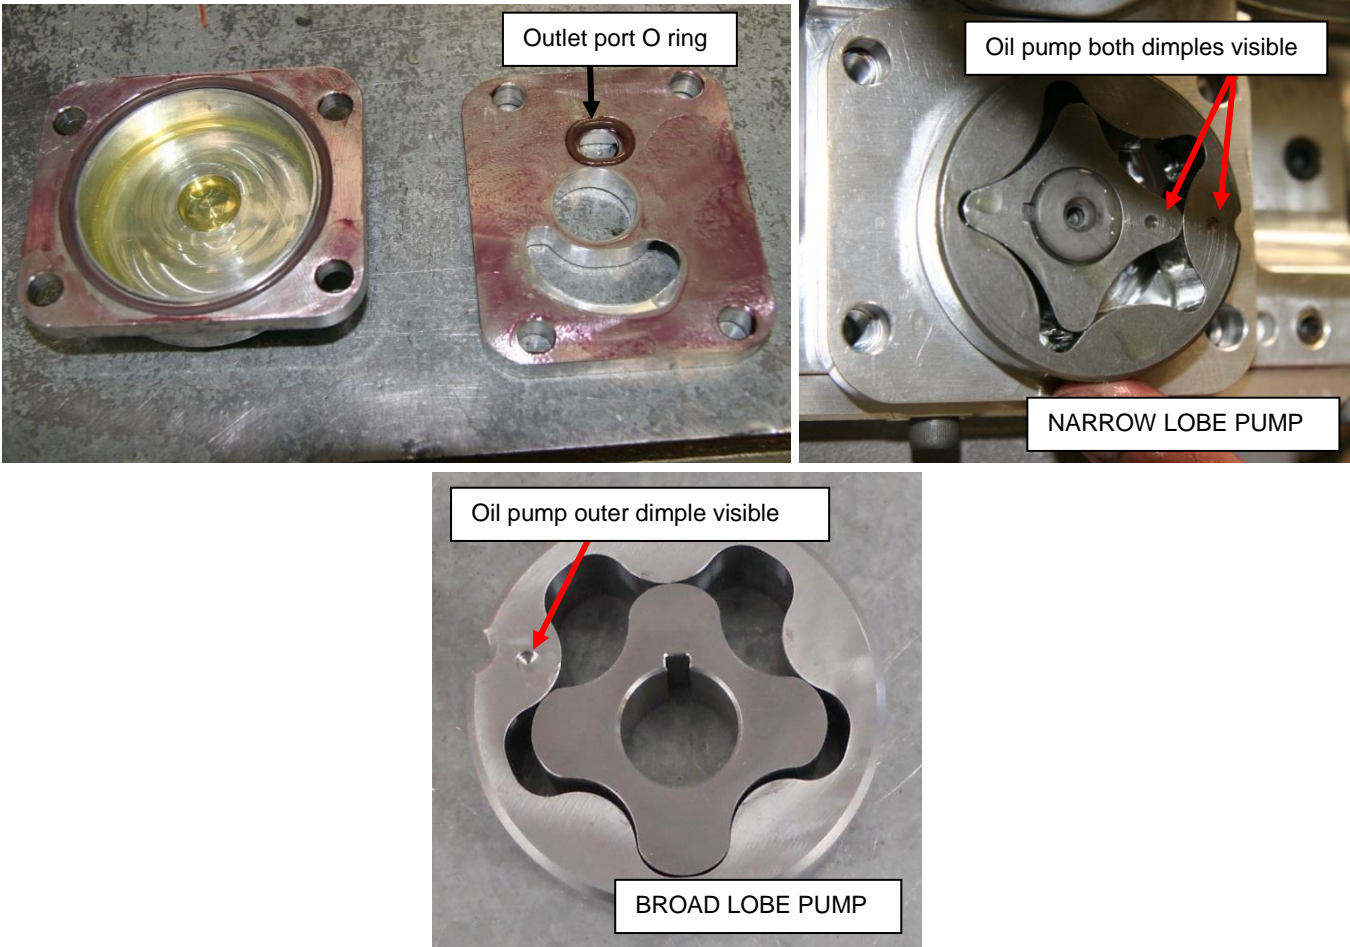

Figure 205 – Fitting Oil Pump & Port Plate
- Fit a new BS112V O ring to the port plate to seal the pressure delivery port (Figure 205).
- For the **Narrow Lobe Pump**, Both dimples must be visible (i.e. facing outwards) Figure 205.